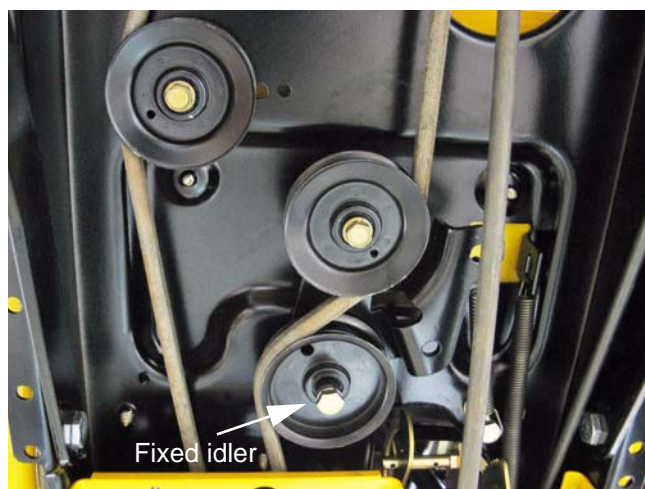

Figure 23.12
- 23.12. The fixed idler pulley can be removed from later models using a single 1/2" wrench. The bolt that holds the fixed idler to earlier models threads into a 3/8" nut above the tractor frame. The bolt can be removed from the nut using a pair of 9/16" wrenches without removing the fenders. See Figure 23.12.